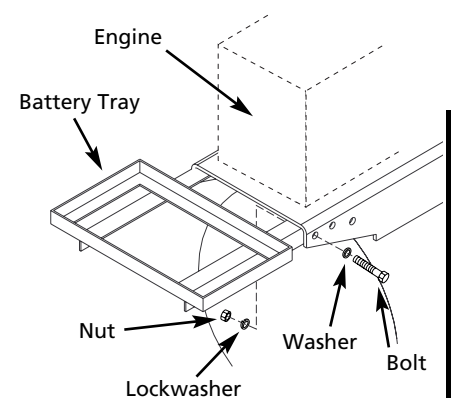

Figure 1 - Mount tray
1. Install battery tray onto the base-plate of the compressor using provided hardware (See Figure 1).